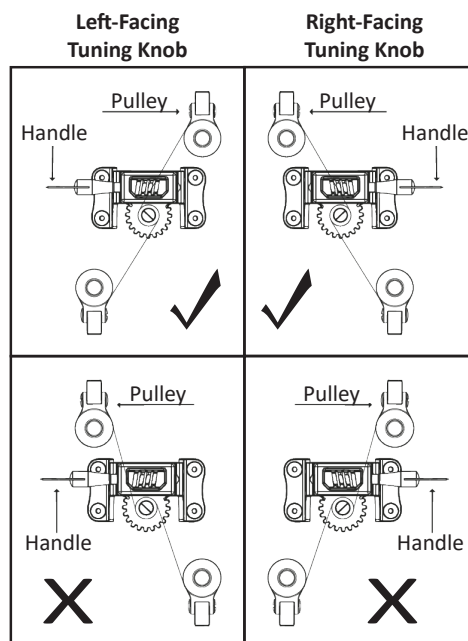

Fig. 1
3. Align pulleys to tuning knob by rotating hoops (**Fig. 1**). Take the cable from package, uncoil, and grasp the end with no ball.